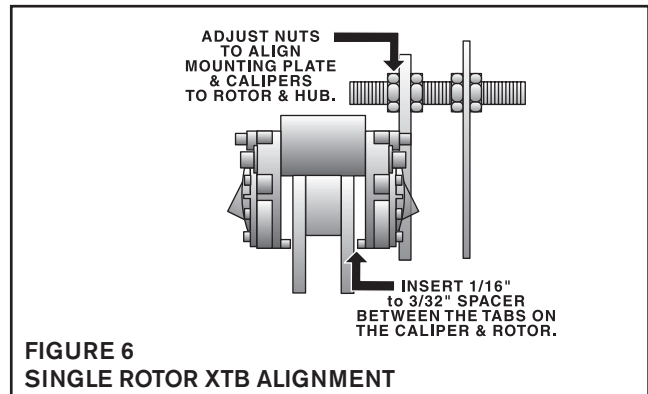
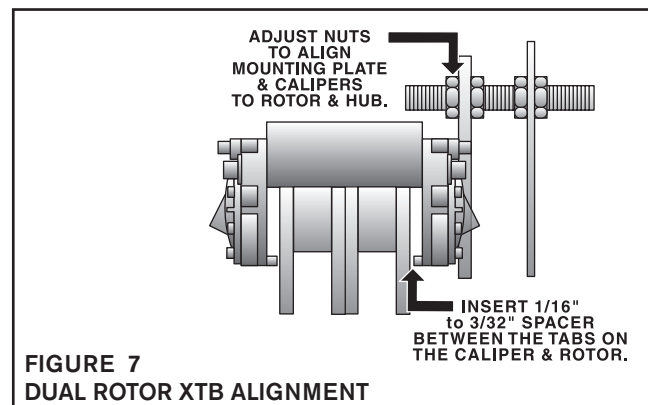

FIGURE 6
FIGURE 7
7. Align the Mounting Ring and Calipers to the Rotor(s) and Hub Assembly by adjusting the Nuts until a 1/16-3/32" spacer can be inserted between the tabs on the Caliper and Rotor (See Figure 6 for Single Rotor alignment and Figure 7 for Dual Rotor alignment procedures).